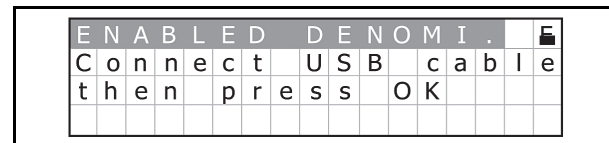

Figure 25 Standby Screen 1
- Ensure that the LCD Display shows the Standby Screen shown in Figure 25.